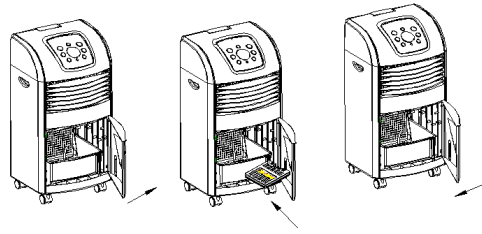

Fig 1
- For added cooling,add ice to the tank or place the icebox in the tank and put cold storage along the track.Icebox and cold-storage must be placed in the freezer for at least 1 hour before use.(Fig.1)